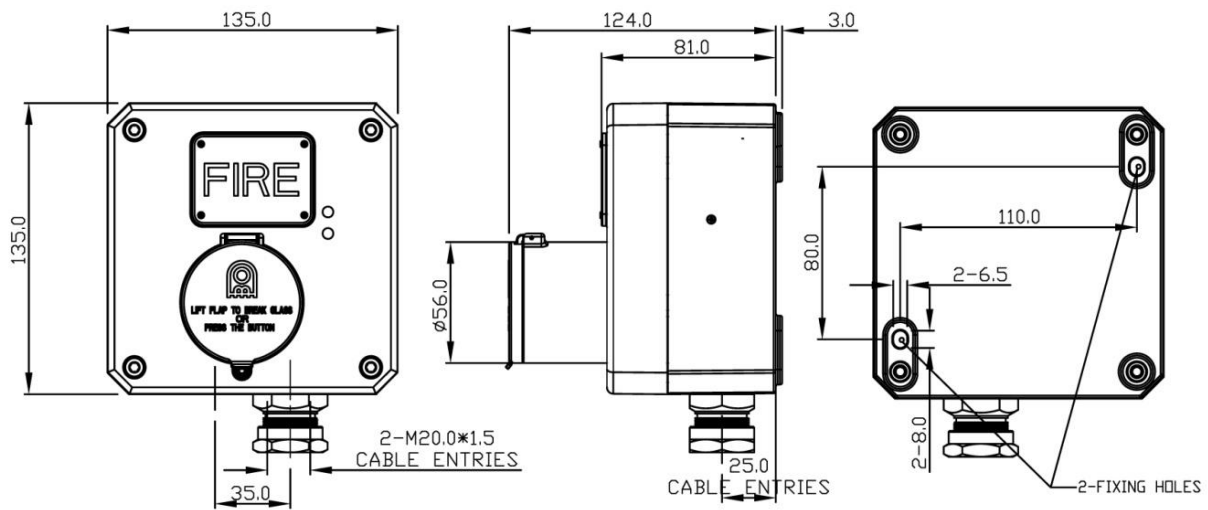

Fig. 1
The product should be mounted on a vertical surface using two (2) fixing holes in the base by removing the end cover. The fixing holes are designed to fit M5 Allen Screw only. Use of stainless steel fastener is recommended by BARTEC TECHNOR. If you need mounting plate, please contact BARTEC TECHNOR to ask the installation drawing of the mounting plate. (See Fig 1)